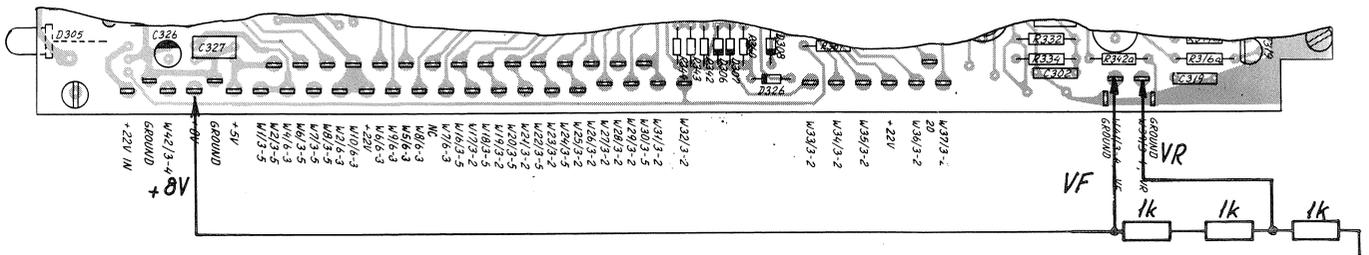

Fig. 3
5.1.6. Disconnect V_R from +8V, see fig. 1, and do as shown in fig. 3.
5.1.9. Disconnect V_F W41/3-4, V_R W39/3-4 and connect V_F to +8V and connect V_R as shown in fig. 3.
5.1.10. Connect a voltmeter (full scale deflection 3V) across R342a, see fig. 3.
5.1.14. Disconnect V_F W41/3-4, V_R W39/3-4 and connect V_F to +8V and connect V_R as shown in fig. 3.